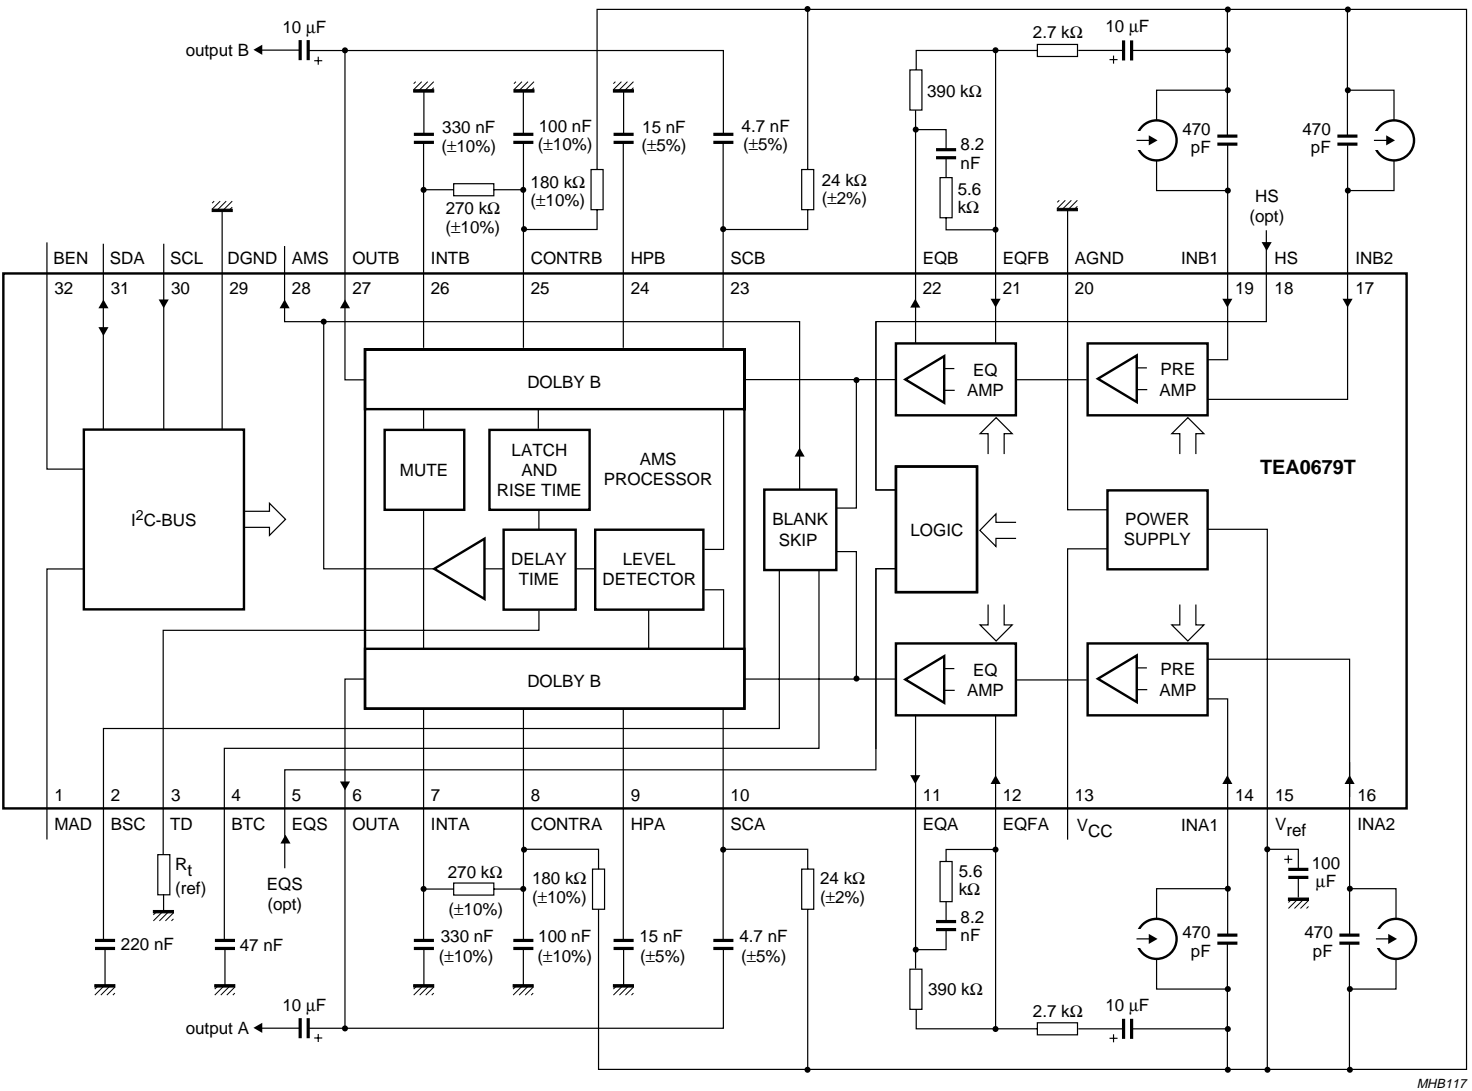

Fig.1 Block and application diagram.
$V_{CC} = 10\text{ V}$ ;  $f = 20\text{ Hz}$  to  $20\text{ kHz}$ ;  $T_{amb} = 25\text{ °C}$ ; all levels are referenced to  $V_o = 387.5\text{ mV (RMS)}$  (0 dB) at test point (TP) pin OUTA or OUTB; see Fig.1; NR on/AMS off; EQ switch in the 70  $\mu\text{s}$  position; unless otherwise specified.